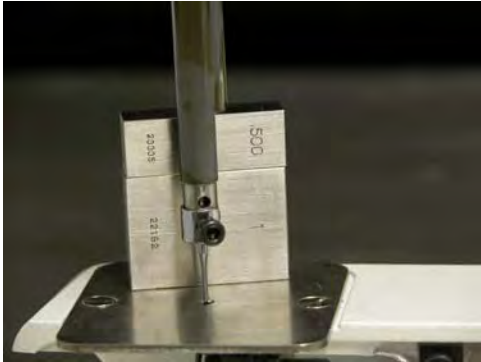

Figure 7.1
*This adjustment is made with the front frame cover off.* When the needle bar is at its lowest position the presser bar must be 1.5" above the needle plate as shown in Figure 7.1.